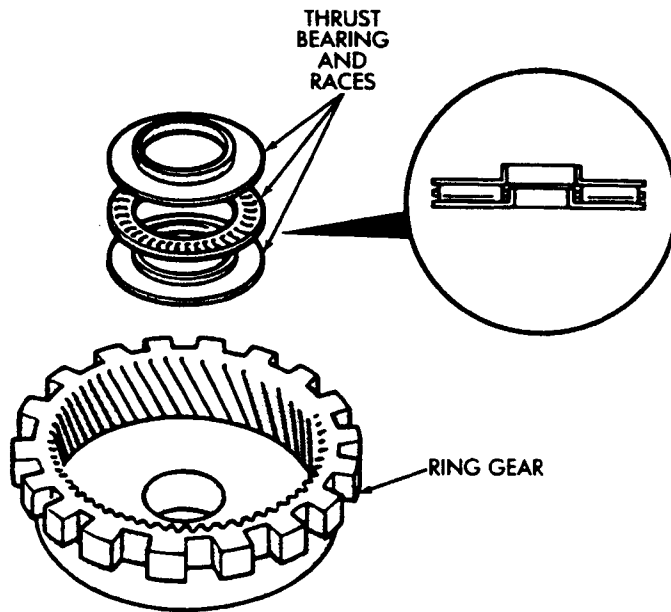
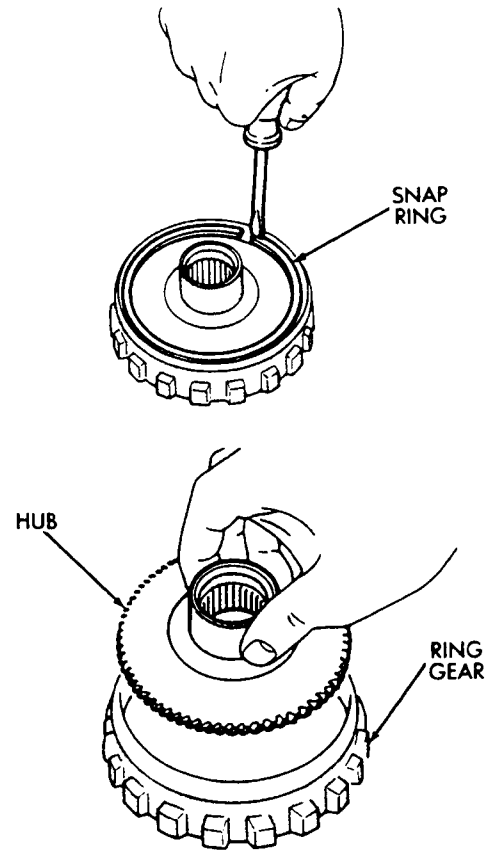

Fig. 10 Removing/Installing Ring Gear Thrust Bearing And Races
Fig. 11 Removing/Installing Ring Gear Hub
- (10) Remove thrust bearing and washers from ring gear (Fig. 10).
- (11) Remove ring gear snap ring and remove ring gear hub (Fig. 11).
- (12) Inspect and replace any worn or damaged planetary gear components.
- (1) Install hub and snap ring in ring gear (Fig. 11)
- (2) Identify ring gear thrust bearing and races by following dimensions:
- Outer diameter of bottom race (Fig. 10) is 44.8 mm (1.764 in); inner diameter is 27.6 mm (1.087 in).
- Outer diameter of bearing (Fig. 10) is 44.7 mm (1.760 in); inner diameter is 30.1 mm (1.185 in).
- Outer diameter of upper race Fig. 10) is 44.8 mm (1.764 in); inner diameter is 28.8 mm (1.134 in).
- (3) Lubricate ring gear thrust bearing and races with petroleum jelly and install them in ring gear (Fig. 10).